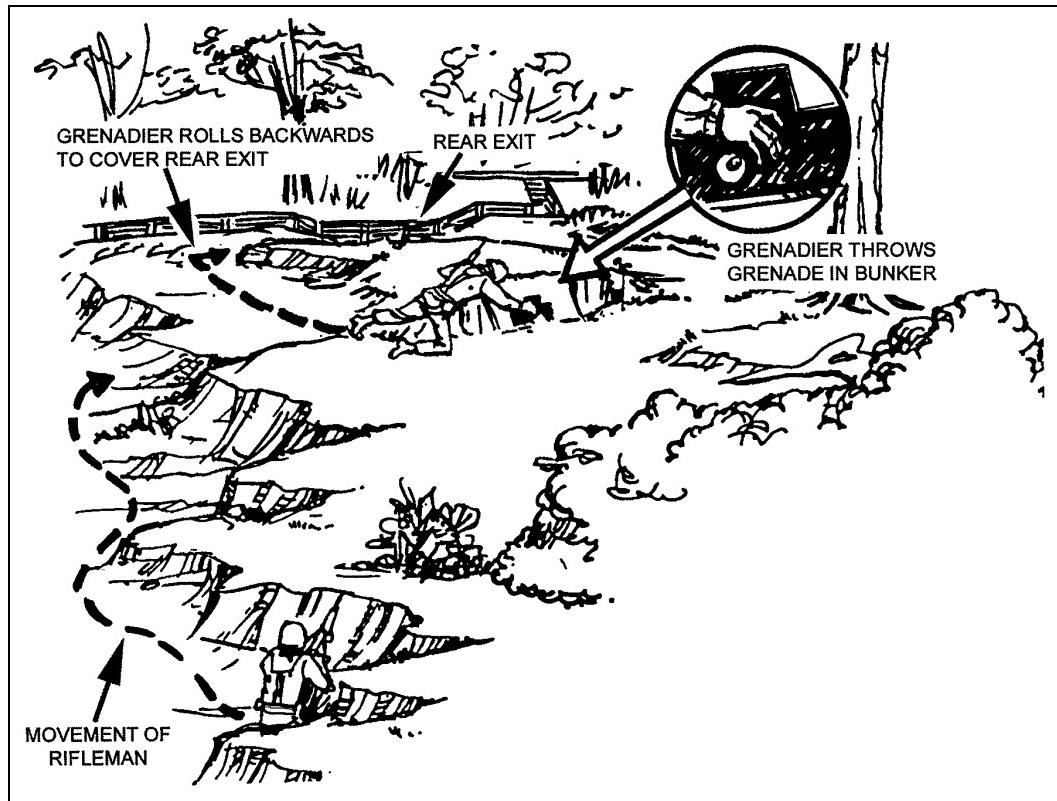
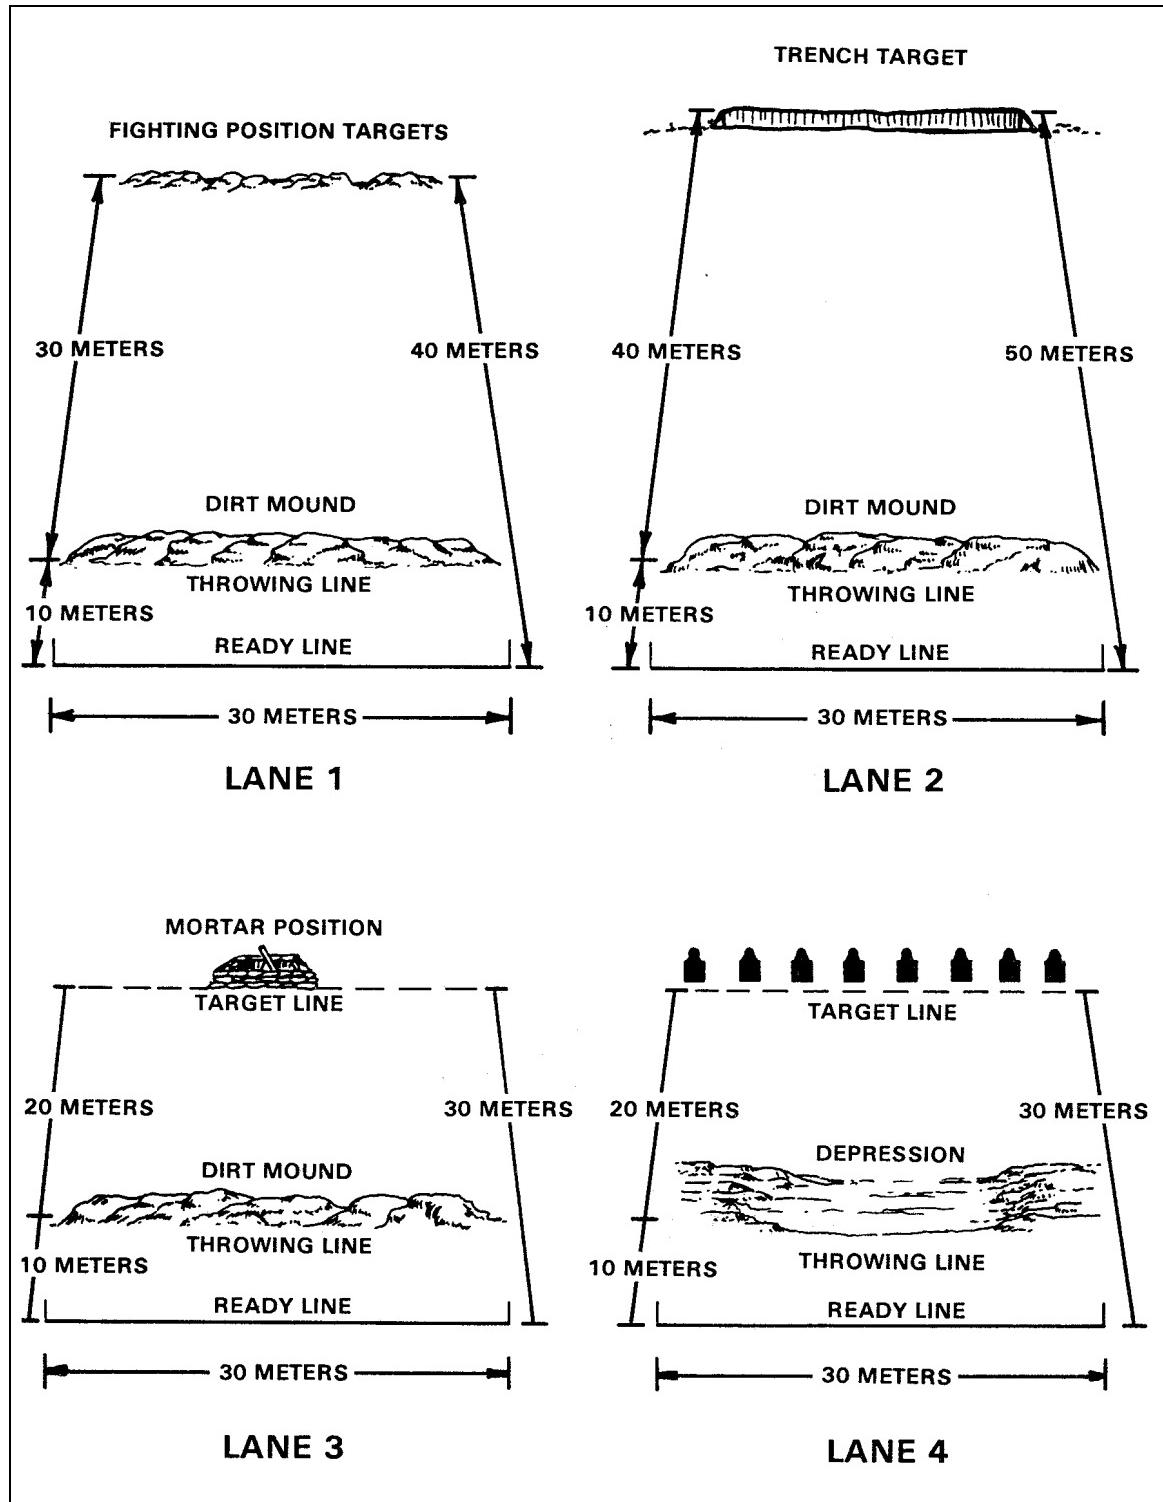

Figure 3-9. Enemy bunker assault.
Figure 4-1. Distance and accuracy layout.
e. Clearing an enemy bunker and killing the enemy soldiers inside requires violence and speed of execution, plus synchronization of effort at the buddy and squad level, in order to succeed. The following are procedures for clearing a bunker (Figure 3-9):
(1) Recommend a four-station course layout (Figure 4-1). The four stations may be combined if the terrain does not allow four stations.
(2) Targets should include soldiers in the open at 20 meters, a fortified mortar pit at 20 meters, a fighting position at 30 meters, and a trench target at 40 meters.
b. **Bunker Complex.** The bunker complex (Figure 3-9, page 3-13) exercise is designed to develop the soldier's proficiency on how to properly attack a bunker complex from a covered and concealed location while using the proper movement techniques and the hand grenade cook-off technique. When conducting the training, give soldiers clarification on the task, conditions, and standards, followed by a demonstration and standards for the station. The following is a generic task with conditions and standards to assist units.